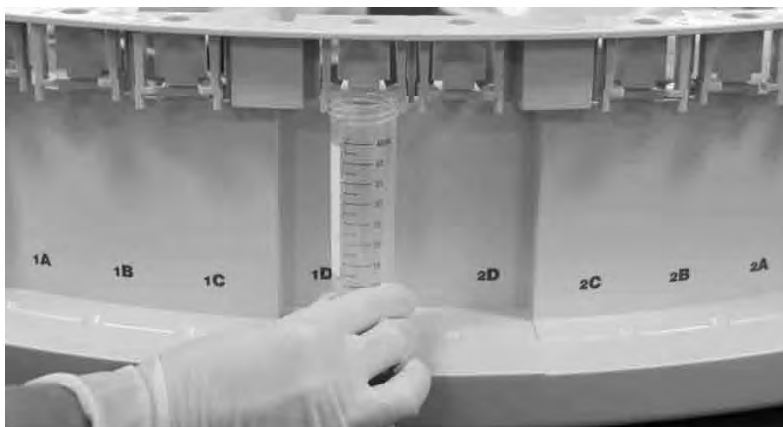

Fig. 6.18. Installation of a tube into fraction tube position 1D.
2. Push the top of the conical tube into the top tube holder (Figure 6.18).